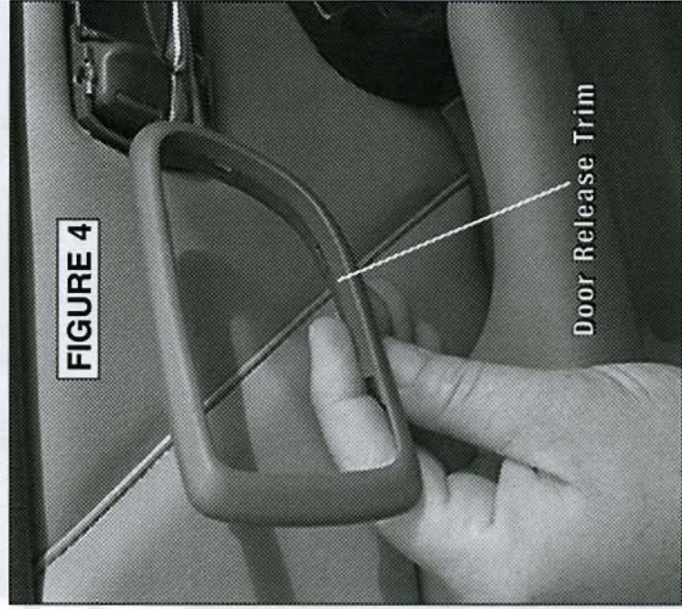

FIGURE 4
3. Pry out edges of door release trim to release plastic retaining clips and remove trim (Figure 4).